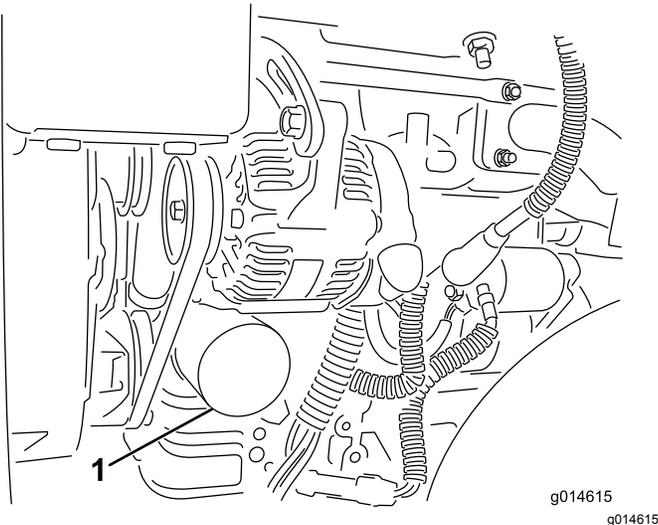

Figure 31
2. Remove the oil filter (Figure 31). Apply a light coat of clean oil to the new filter gasket.